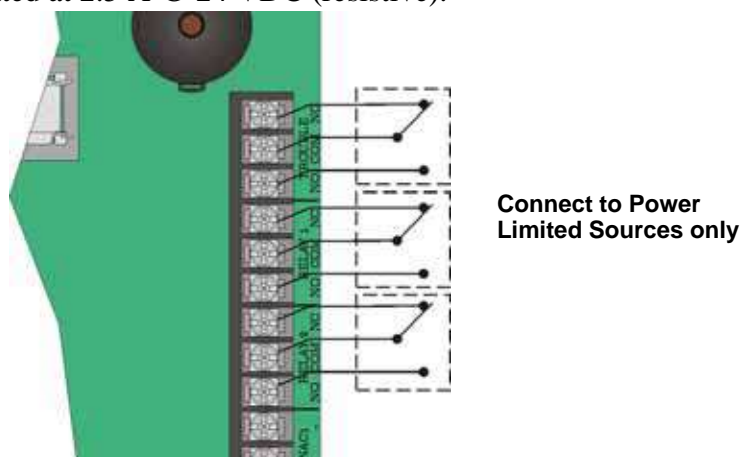

Figure 4-36 Location of Conventional Relay Circuits
1. Wire Relay 1 and/or Relay 2 as needed for your application. See Figure 4-36 for the location of the relay terminals.